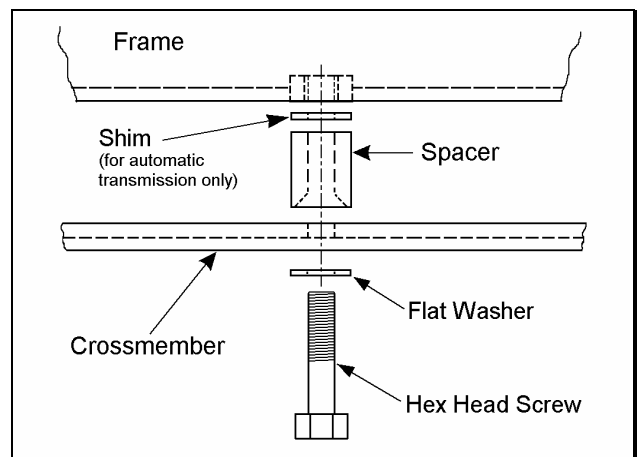

Figure 12b
6. ☐ If hex head screws were removed, install the hardware from kit 860483. See figure 12b.